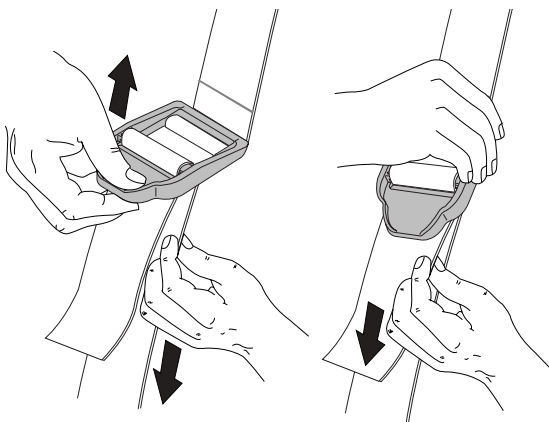

FIGURE 6
4. Adjust length to fit the operator's size. Pull tab to lengthen, pull strap to shorten, Figure 6.